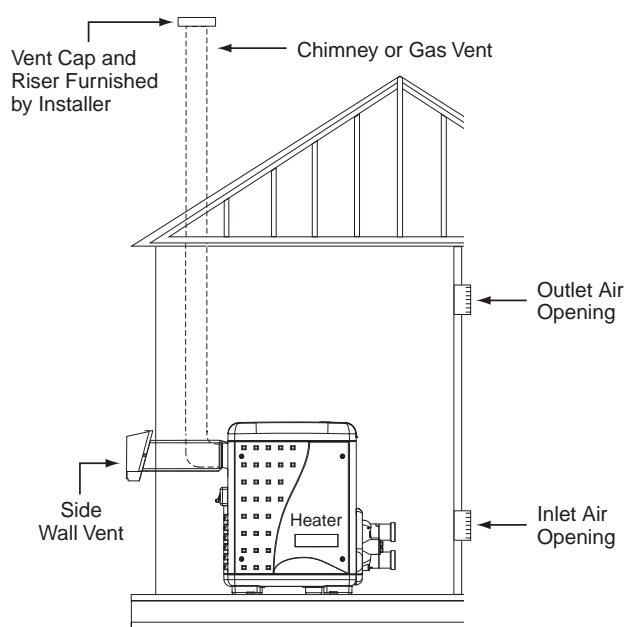

Figure 14.
## HORIZONTAL OR VERTICAL VENTING - POSITIVE PRESSURE (See Figures 14, 15, and 16)
1. Order an optional appliance adapter kit, (*Pentair offers optional appliance adapter kits, call Customer Service at (800) 831-7133 for more information*): Part No. 77707-0086 for Saf-T Vent® or Saf-T Vent® CI. Part No. 77707-0087 for Z-Vent.
6. **Vent Termination – Vertical** (See Figures 14 and 15), for height of vent termination above the roof. Use an "Approved" vent terminal specified by local and national codes and your manufacturer's instructions. A roof termination must be vertical. In Canada, the Vent Cap location shall have a minimum clearance of 4 feet (1.2M) horizontally from electric meters, gas meters, regulators, and relief openings.